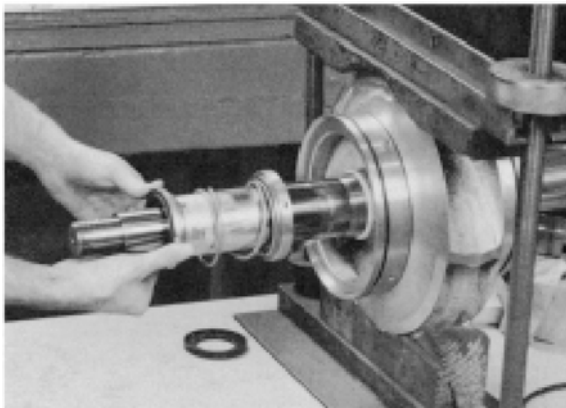

FIGURE 48 – INSTALLING SHAFT BEARING
18. Using gloves, slide the heated bearing onto the shaft against the shaft shoulder (See Figure 48).